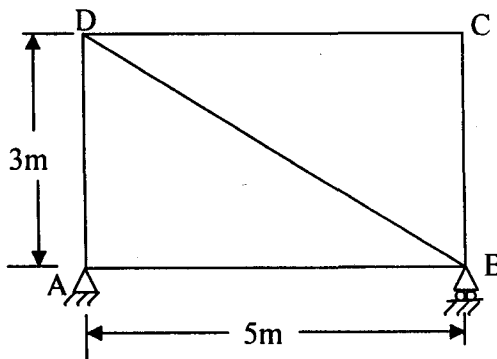

Fig. Q.10
Q.10) All the members of the plane truss shown in Fig. Q.10 have the same cross-sectional area of 25cm^2 . Find the forces in the members due to a rise in temperature of member CD by 22°C . Given: $E=2 \times 10^5 \text{ N/mm}^2$; $\alpha = 0.000012/^\circ\text{C}$.